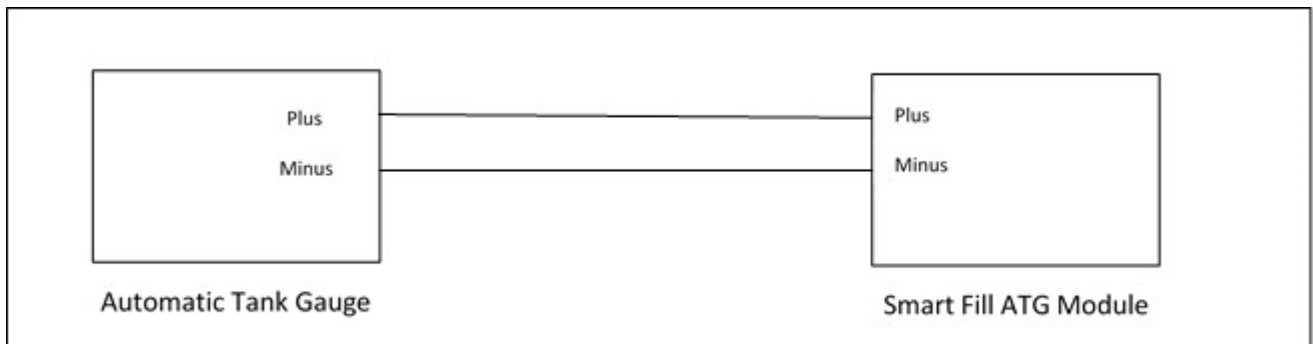

Figure 4.2: RS485 Wiring
4.3.2 RS485 Serial Communication – RS485 requires a two (2) wire interface. The two (2) wires are Plus and Minus. Interconnect the two systems in accordance with Table 4.3 and Figure 4.2